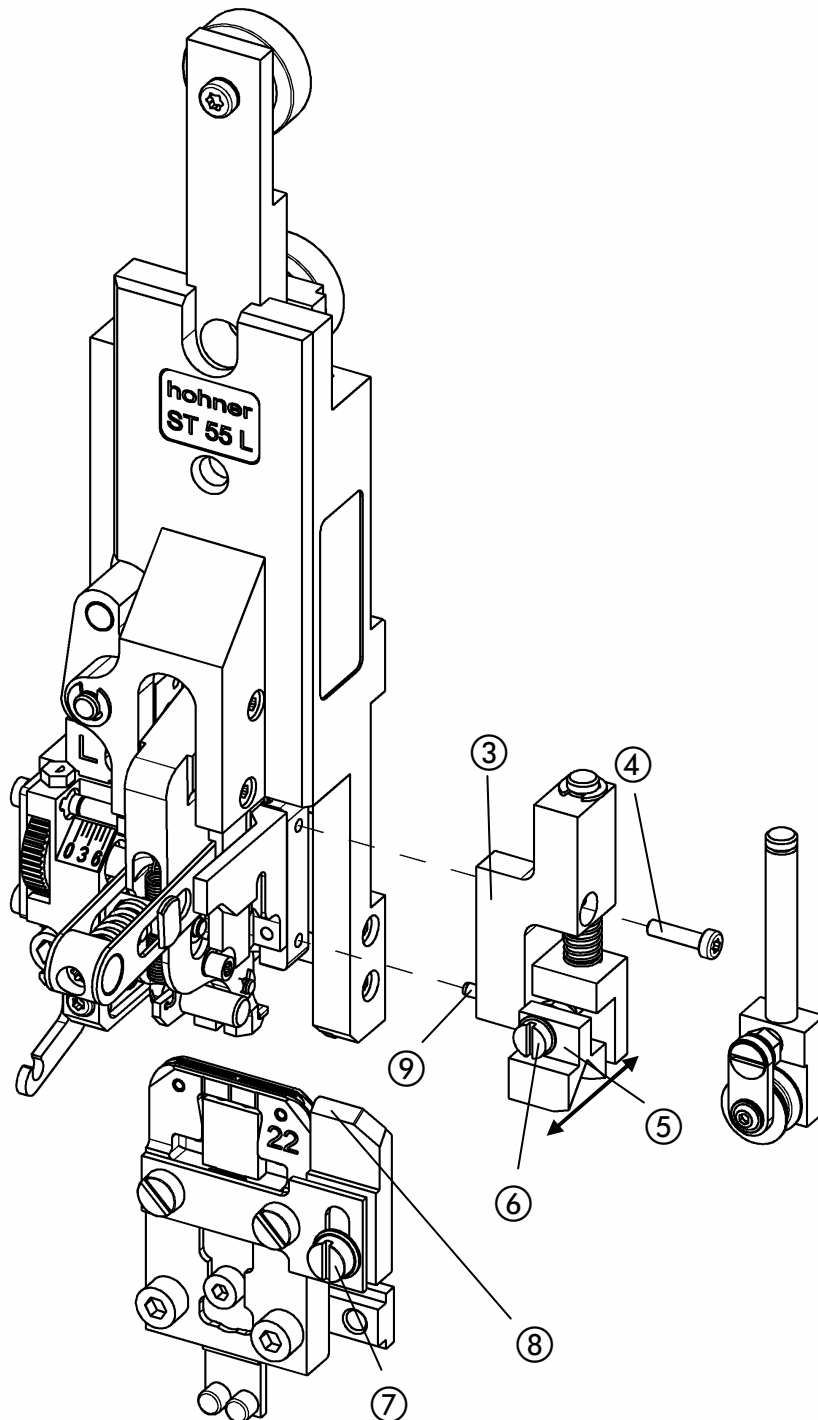

Fig. 16
- Fig. 16 -
- In order to install the holding down device ⑪, insert the guide pin into the borehole on the bender and tighten the fastening screw ⑫.
- The centering prism ⑬ can be moved back and forth by turning the adjusting screw ⑭.
- Move the centering prism ⑬ backward or forward until it is precisely aligned with the prism of the slider ⑮.
- Adjust the height of the prism ⑬ (approx. 0.5 mm above the clincher box) by moving it in the slot and tighten the fastening screw ⑯.